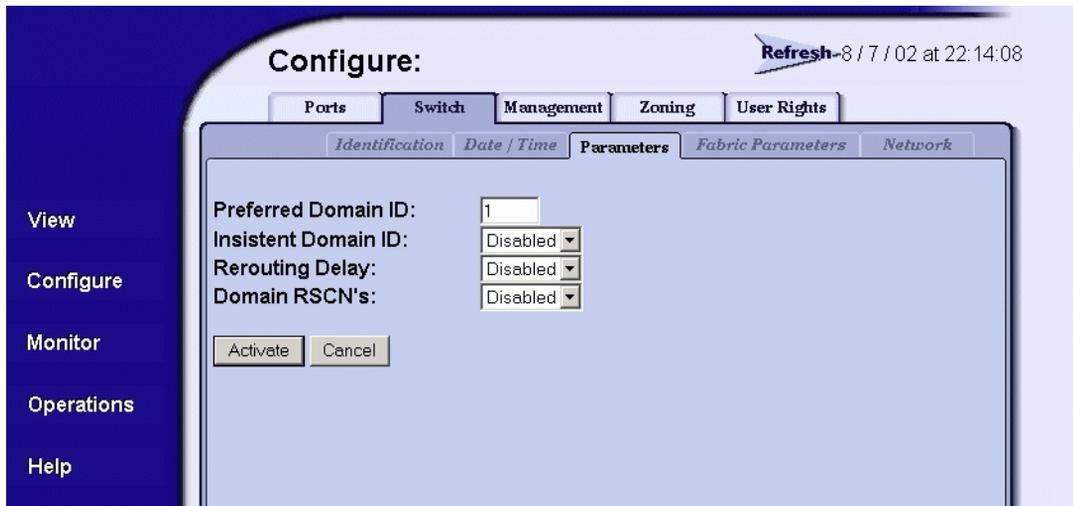

Figure 2-4: Configure product parameters tab view
3. Click the **Switch** or **Director** tab, as appropriate. Click the **Parameters** tab to display the **Parameters** tab view (Figure 2-4).